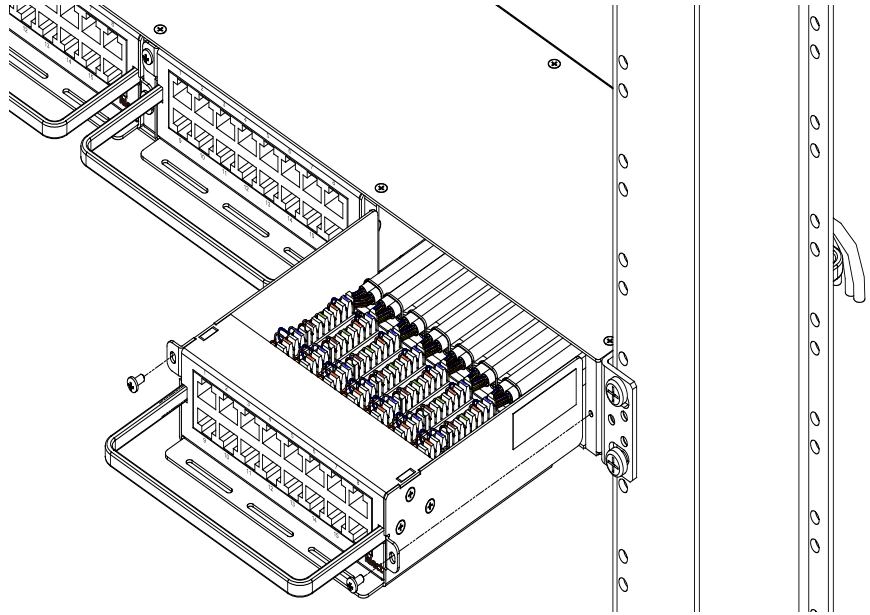

Figure 5 - Installing the Module
- When finished punching down and securing all cables, slip the module into the ELF rack panel and secure with two, M3 screws provided, as shown in Figure 5.